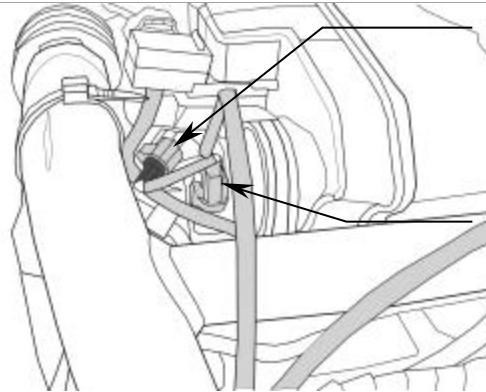

FIGURE 1: LEFT SIDE INJECTOR
3. Locate the fuel injectors in between the cylinder heads of the engine. Unplug the factory fuel injector connector on the right side and attach the matching Fi2000R connector from the longer Fi2000R harness onto the right side injector. Plug the original injector harness connector into the black Fi2000R connector and tuck that connector up and out of the way, so that the air intake boot may be re-installed, see Figure 2. Repeat this procedure for the left side injector, see Figure 1.